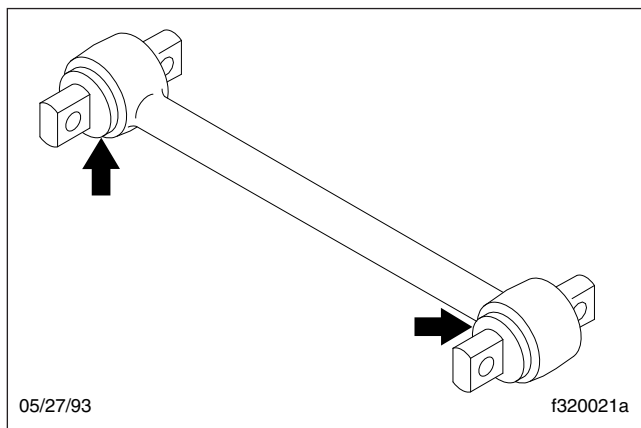

Fig. 3, Torque Arm Bushings
- Inspect the rubber bushing ends. See **Fig. 3**. Replace the torque arm for any of the following reasons: